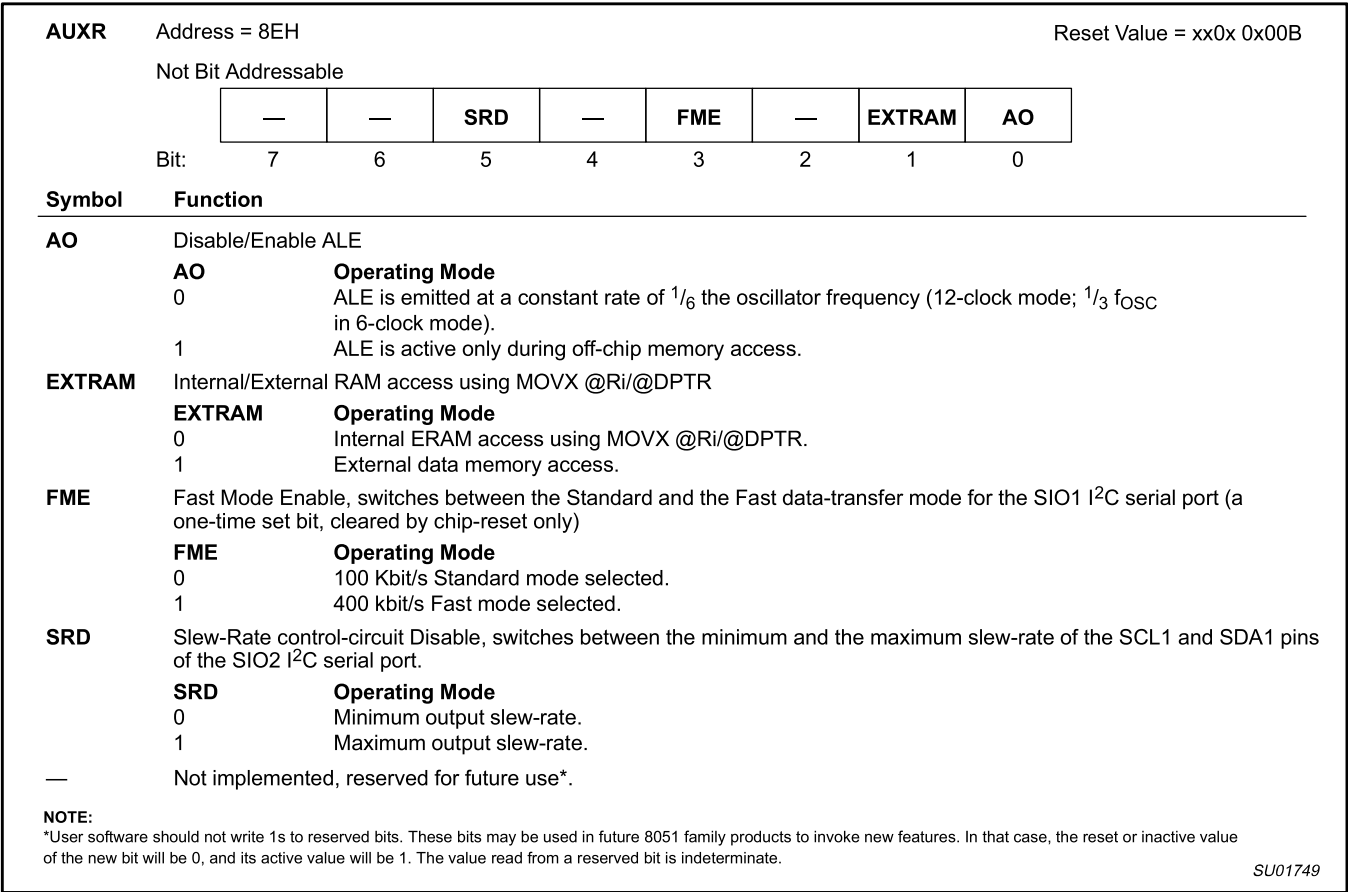

Figure 48. AUXR: Auxiliary Register
4. The 256/768-bytes expanded RAM (ERAM, 00H – 1FFH/2FFH) are indirectly accessed by move external instruction, MOVX, and with the EXTRAM bit cleared, see Figure 48.